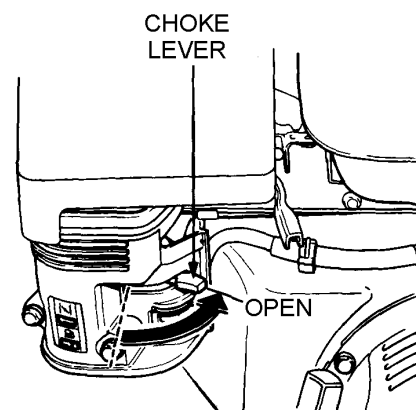

Figure 11. Engine Choke Lever (Closed)
4. Place the **choke lever** (Figure 11) in the **OPEN** position if starting a **warm engine** or the **temperature is warm**.